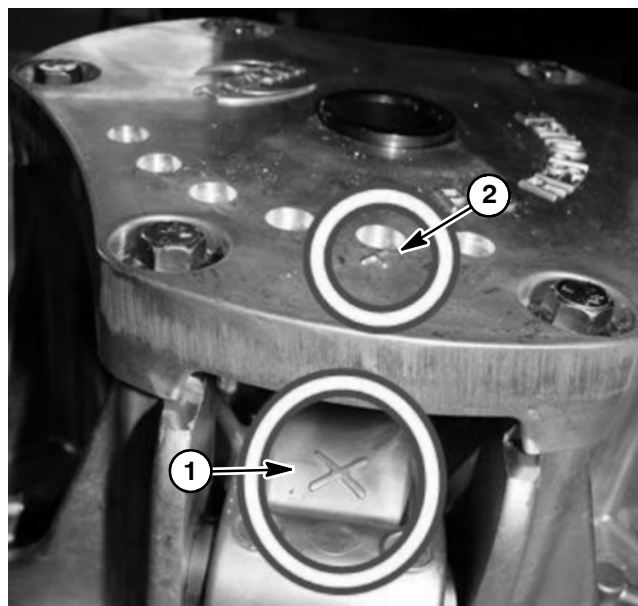

Figure 9
1. Make note of the “X” mark cast into the cover and spider before clutch disassembly (Fig. 9). These marks must be aligned during assembly for proper clutch operation.